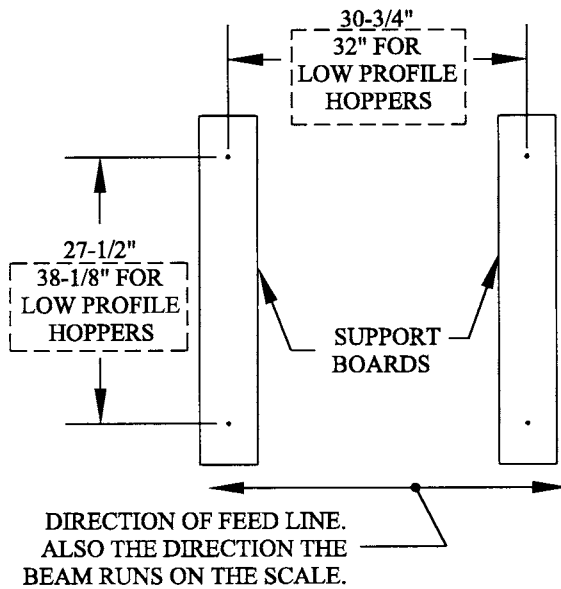

FIG. 1
STEP 1. After the rooster feeder is winched and cabled, you will need to find the location for the four (4) cable pulleys required to support the scale and hopper assembly. Suggested boards for support (2" x 6" min) lagged correctly into trusses. For standard hoppers, eyebolts should be spaced apart 27-1/2" x 30-3/4". For low profile hoppers, eyebolts should be spaced apart 38-1/8" x 32". See Fig. 1.